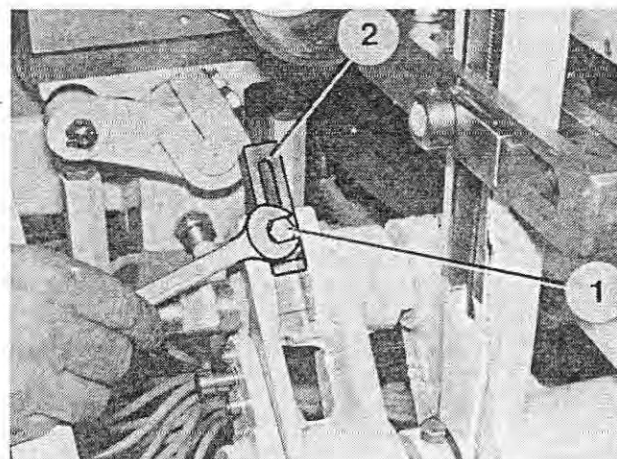

Fig. 171
2. Loosen the locking screw (Figure 171/1). Raise the centering piece (Figure 171/2) and lock it in this position, using the locking screw.